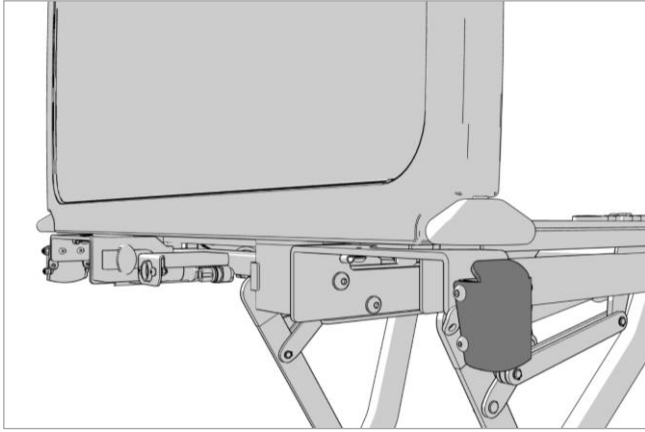
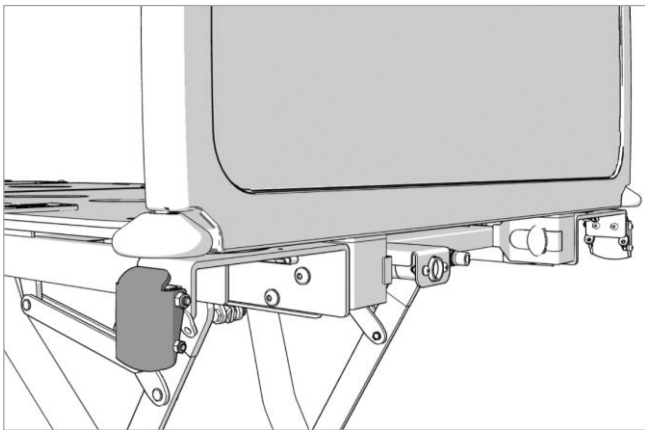

Figure 10.1
Figure 10.2
1. Locate the CPR Levers at the head end of the bed either side of the headboard as shown in Figure 10.1 and Figure 10.2. The CPR function can be operated from either CPR Lever.